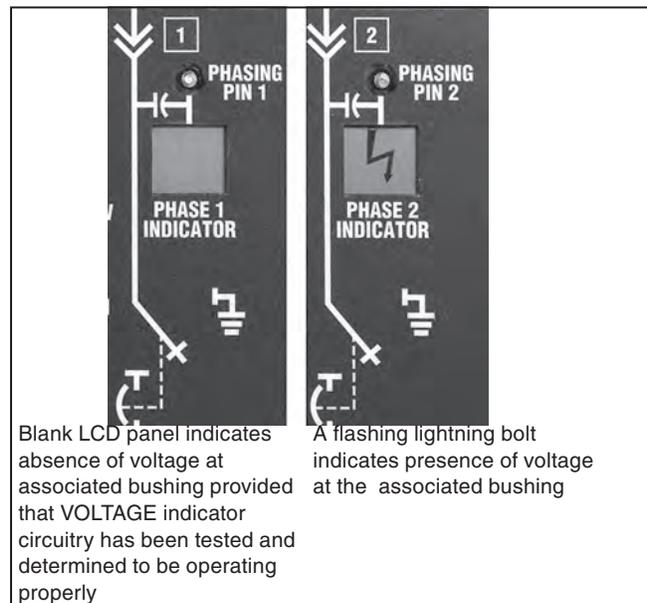
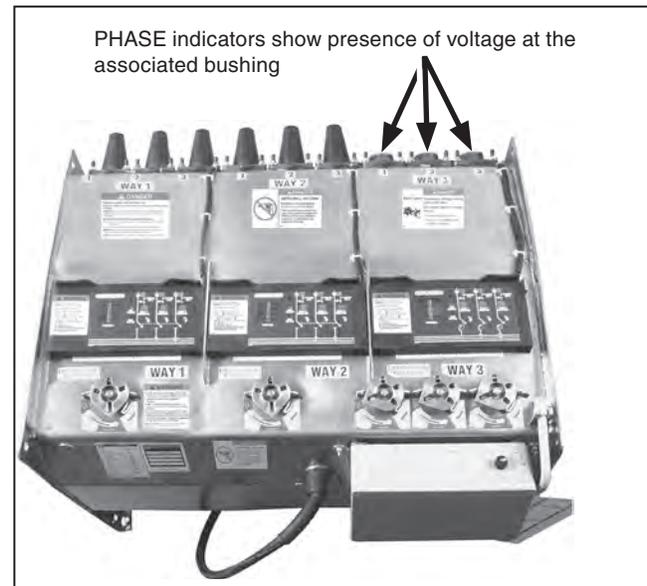

Figure 44. The VOLTAGE indicator circuitry.
Figure 45. Each VOLTAGE indicator is provided with three PHASE indicators—one for each phase. (Manual unit shown for illustration purposes.)
STEP 2. Check the PHASE indicators to determine whether there is any voltage at the associated bushings. See Figure 44. A flashing lightning bolt ⚡ in the PHASE indicator means voltage is present at the bushing. See Figure 45. A blank means either: